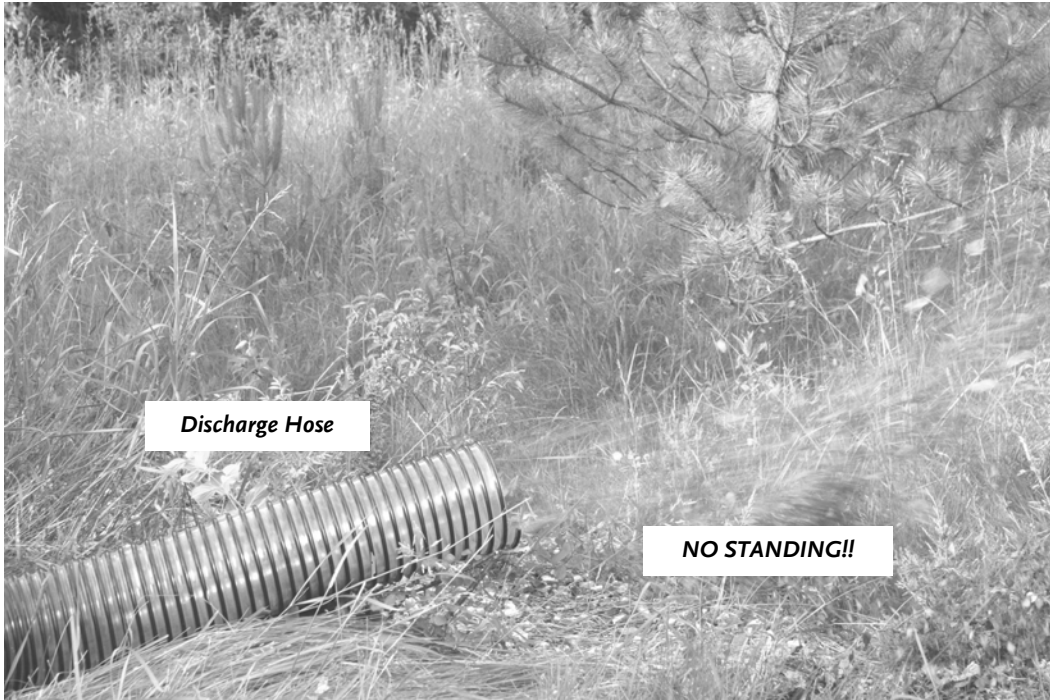

Figure 12a
5. Direct the Mulch-Discharge hose in the selected area to receive the material (**Figure 12a**), start the engine and adjust the Throttle to Fast (Rabbit).